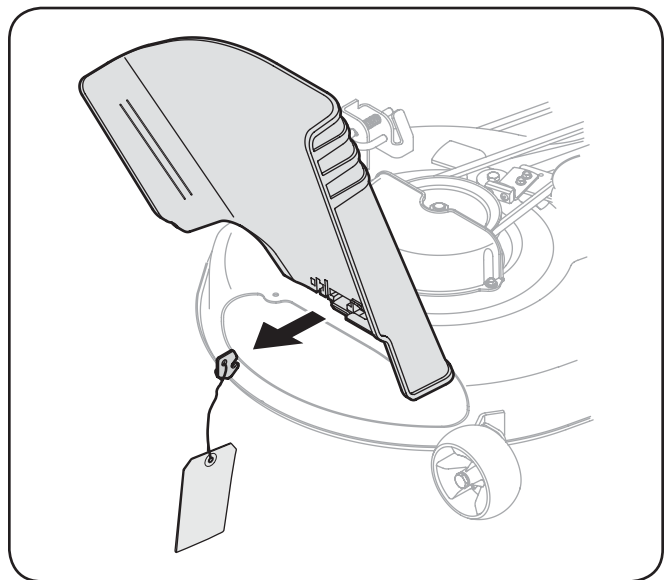

Figure 3-2
- Locate the shipping brace, if present, and accompanying warning tag found on the right side of the mower, between the discharge chute and the cutting deck. See Fig. 3-2.